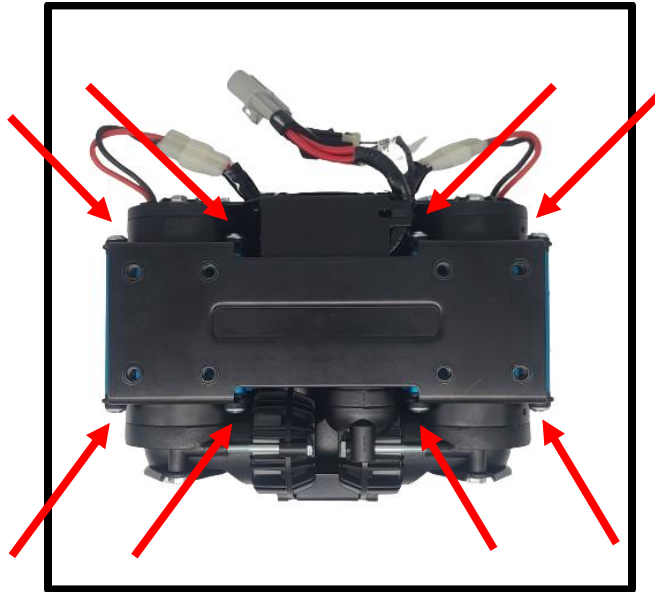

Figure 1
- 1-A) Place the compressor face down with the electrical connectors at top as shown in **Figure 1**. Remove the eight (8) screws (4mm allen) that secure the base to the compressor and remove the base. Remove six (6) of the rubber grommets in the base. Set the base aside (it will not be reused, and it is recommended to save it).